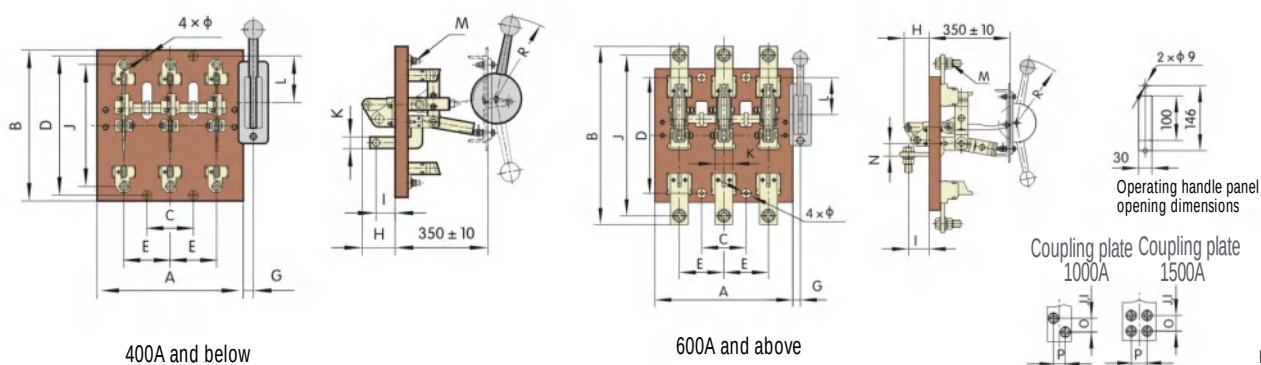

Figure 6
5.6HS12 outline and mounting dimensions (see Figure 6 and Table 7).